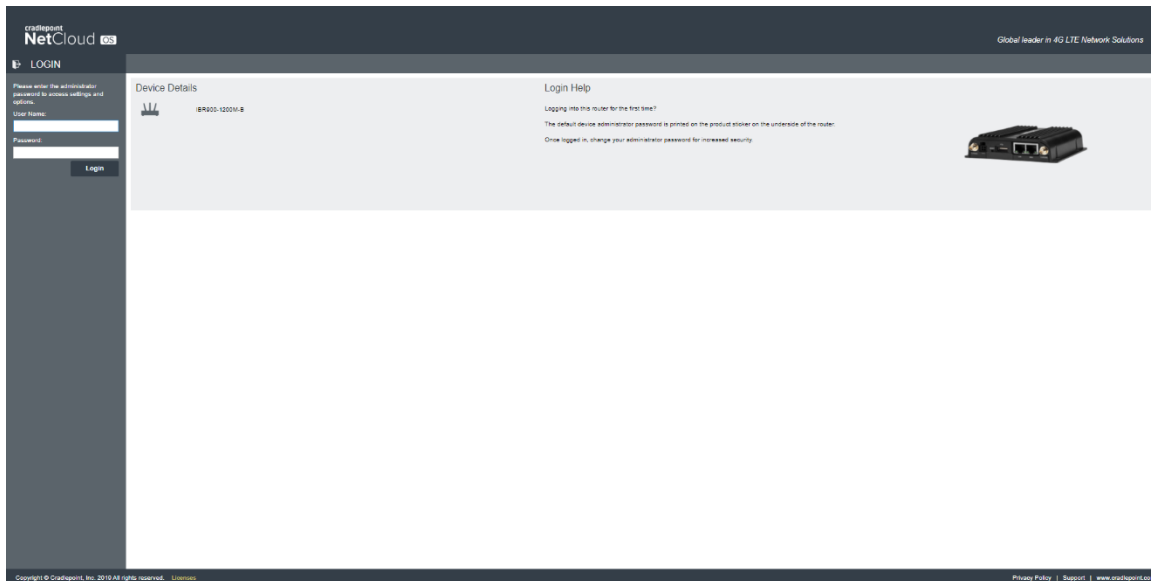

Figure 15: Access Cradlepoint NetCloud.
- A. Open a web browser on the computer and type 192.168.0.1 into the address bar. This will bring up the Cradlepoint NetCloud login, shown in Figure 15.